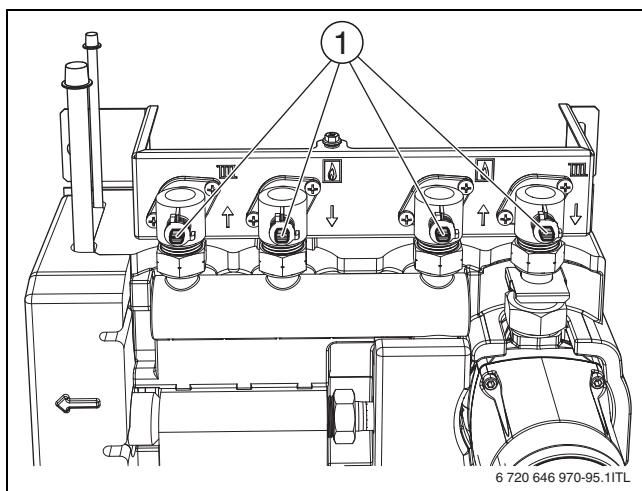

Fig. 52 Closing shut-off valves on the hybrid manager
- ▶ Close all of the shut off valves on the hybrid manager water connections (Fig. 52, Page 49).